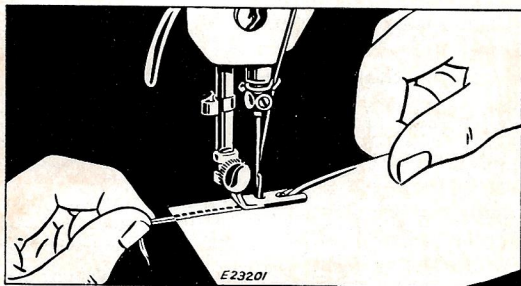

FIG. 37. HEMMING EDGE OF MATERIAL AND PULLING BACK THREADS WHILE SEWING
- (4) Lower hemmer and start to sew, slightly pulling threads back while sewing. **Keep mouth of hemmer full to produce a smooth, even hem, as shown in Fig. 37.**